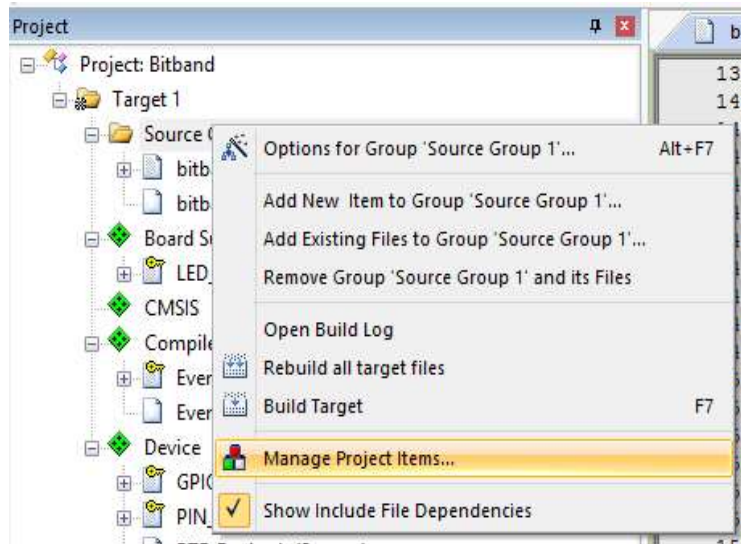

Figure 17
1. With the uVision application open, download the cond_ex.c file from D2L and put it in place of bit banding files. Right click on **Source Group 1 > Manage Project Items** as shown in Figure 17.